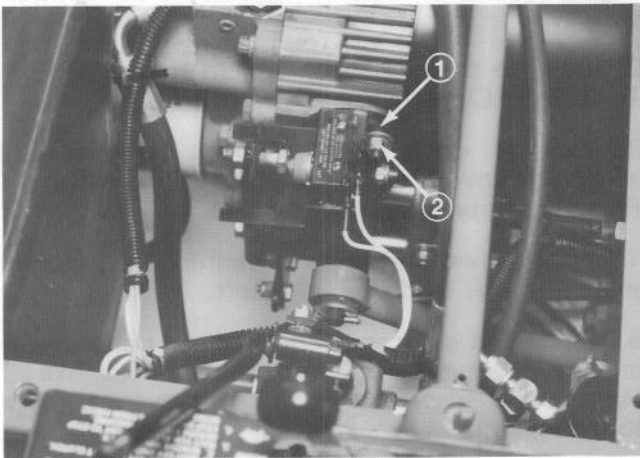

Figure 73
4. Loosen two locknuts securing pump plate so plate is free to move (Fig. 73).
5. Start engine and rotate pump plate (Fig. 73) in either direction until wheel ceases rotation.
1. Pump plate 2. Locknut (2)
6. Stop engine and tighten locknuts to secure pump plate (Fig. 73).